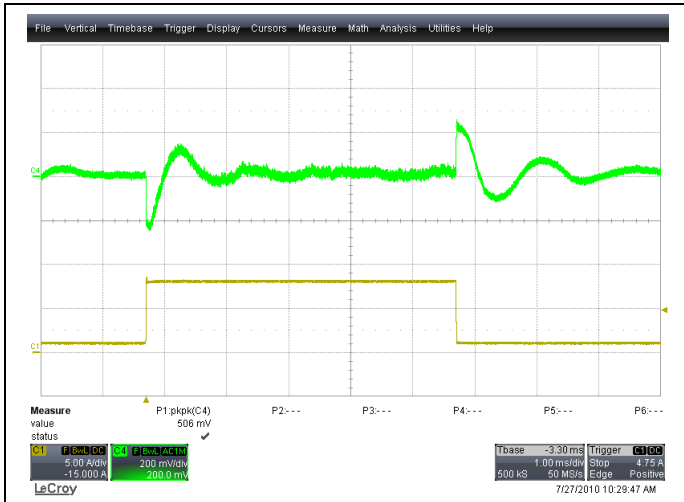
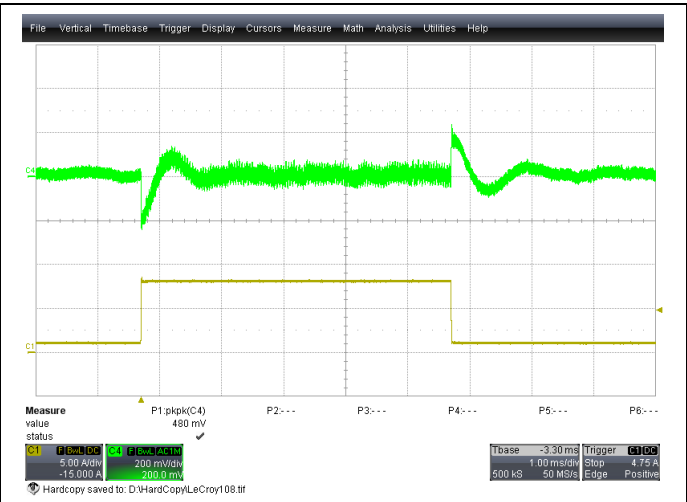

Figure 45 - Transient Analysis, 1A - 8A step load, 36VDC
Figure 46 - Transient Analysis, 1A - 8A step load, 60VDC
**B. Transient Response for load step:** Figure 45 and Figure 46 show the transient response at 36 and 60VDC respectively.